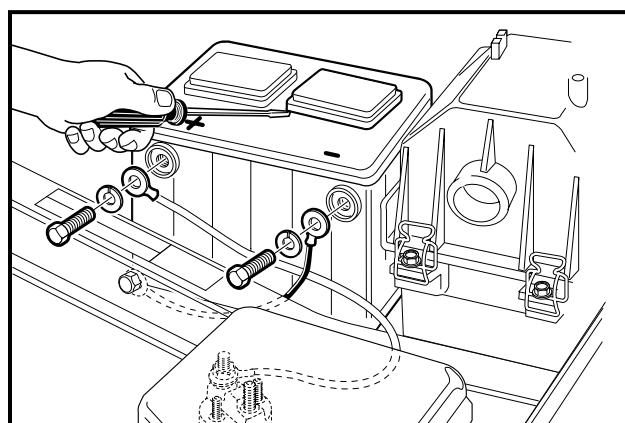

Figure 29 Battery
The battery in a Club Car vehicle is a 12-volt, low-maintenance battery that requires infrequent checks (Figure 29). Electrolyte level should be checked semiannually.
4. Use a flat blade screwdriver, and carefully remove the battery cell caps from the battery (Figure 29). See following WARNING.